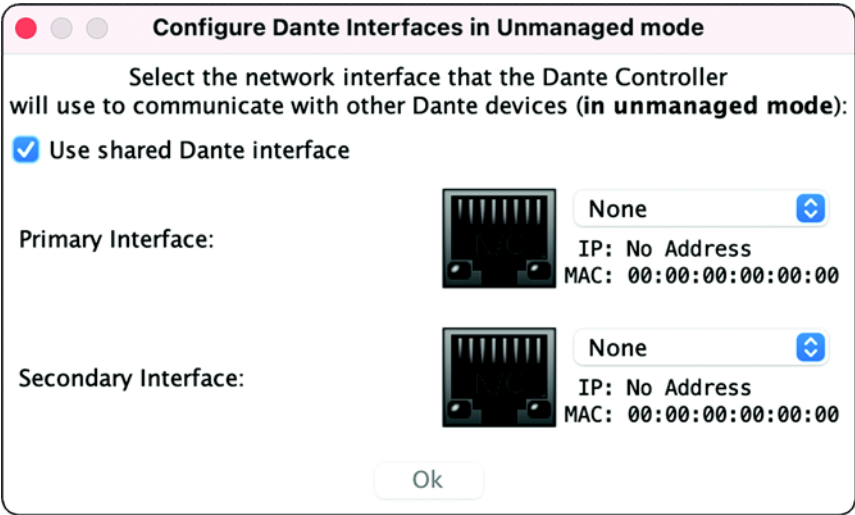

Figure 13. Select the network interface
2. Choose an Ethernet Interface (see **figure 13**). If your computer has multiple Ethernet interfaces or Network Interface Cards, Dante Controller will ask you to choose the Primary Interface for its use.